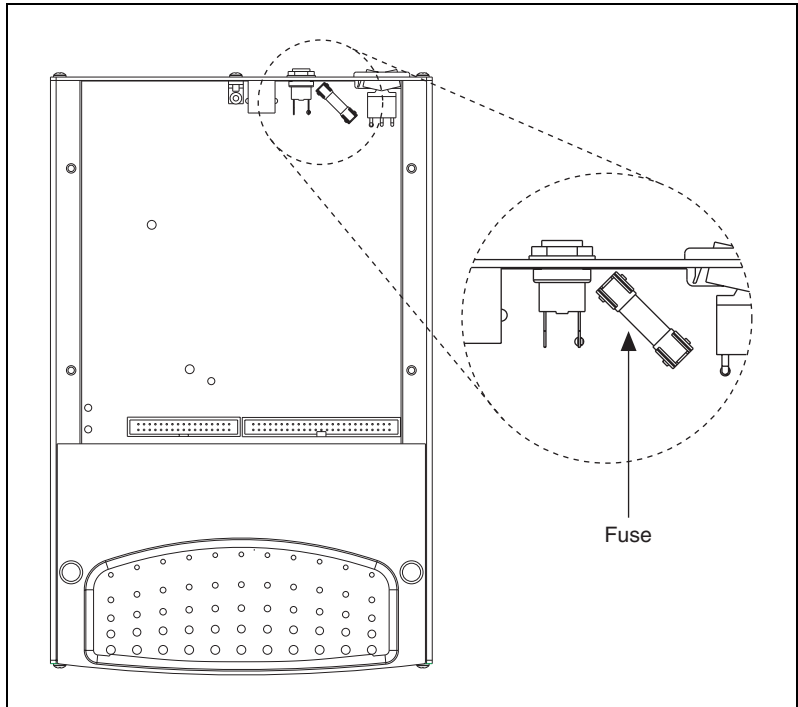

Figure A-10. USB-6251 Fuse Location
2. Replace the fuse while referring to Figure A-10 for the fuse location.